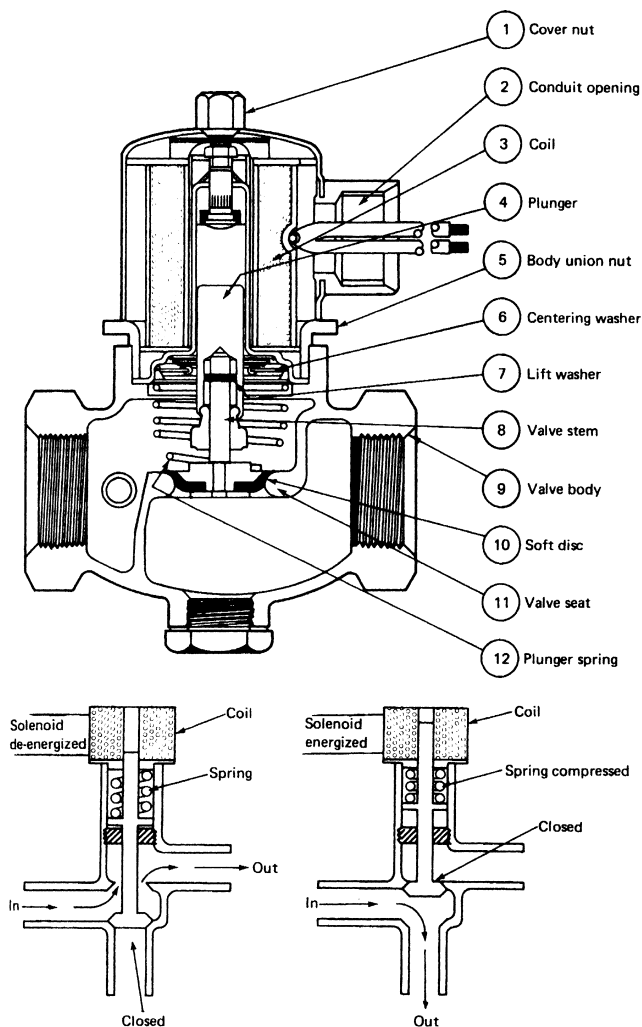

Fig. 11-4 Solenoid for controlling natural gas flow to a hot air furnace. (Honeywell)
Figure 11-4 shows a solenoid for controlling natural gas flow in a hot-air furnace. Note how the coil is wound around the plunger. The plunger is the core of the solenoid. It has a tendency to be sucked into the coil whenever the coil is energized by current flowing through it. The electromagnetic effect causes the plunger to be attracted upward into the coil area. When the plunger is moved upward by the pull of the electromagnet, the soft disc (10) is also pulled upward, allowing gas to flow through the valve. This basic technique is used to control water, oil, gasoline, or any other liquid or gas.